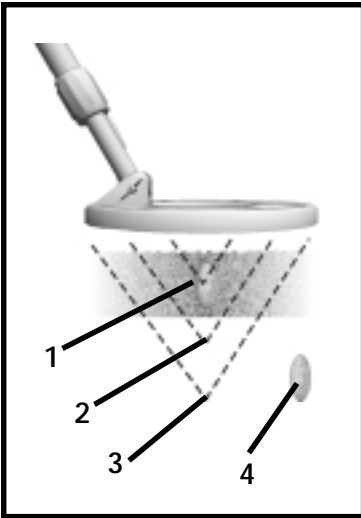

Figure 7. Search coil detection pattern and the effects of sweep speed, trash rejection and ground mineralization.
5. Always bury a coin when working in unfamiliar territory and check it at different Trash Rejection levels. There is some sensitivity loss at higher levels of discrimination. The greater the ground mineralization, the higher the sensitivity loss. For example, you may be able to detect a penny 6 inches deep at zero discrimination, but no deeper than 4 inches at the pull tab discrimination point (see Figure 7). Also, ground mineralization can reduce a detector's ability to discriminate accurately. In highly mineralized soil, some trash targets may not be rejected.